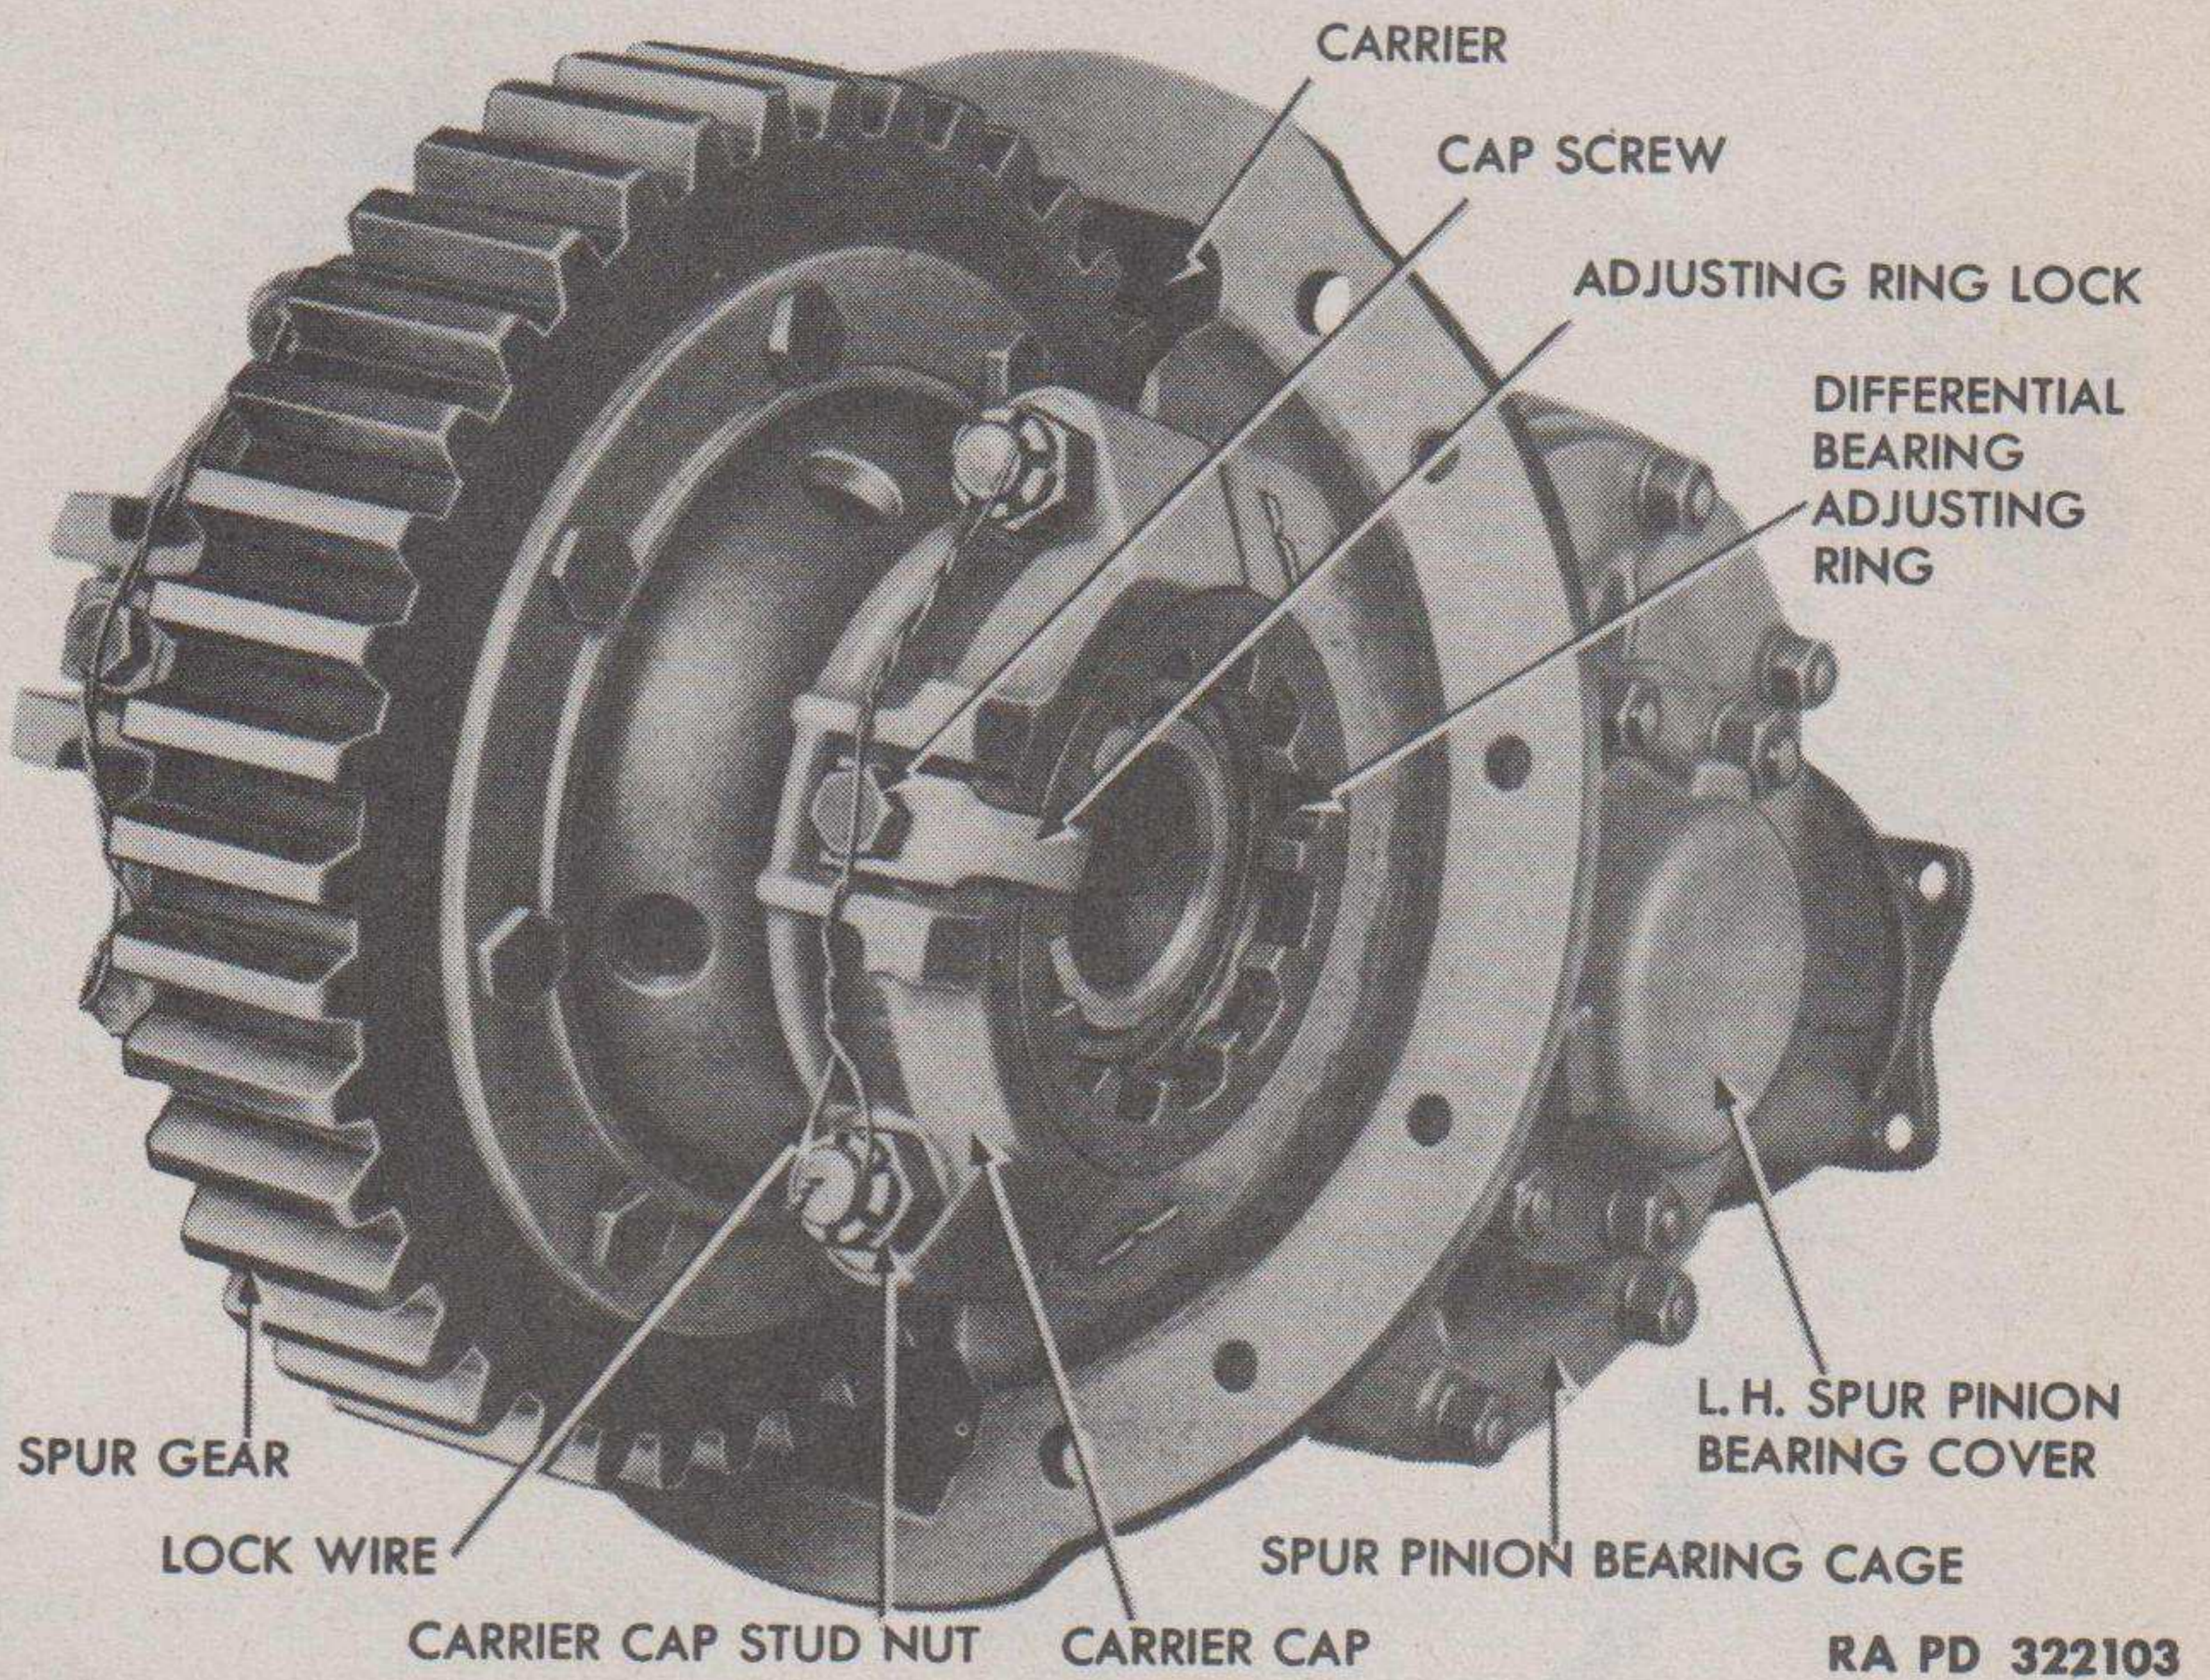

Figure 36 – Front Axle Differential Carrier Assembly
(1) **MARK CARRIER AND CARRIER CAPS** (fig. 36). Punch-mark carrier and carrier caps on both sides to assure correct fit when unit is assembled.
(2) **REMOVE DIFFERENTIAL ASSEMBLY** (fig. 36). Remove lock wires from carrier cap nuts and differential bearing adjusting ring lock screws. Remove lock screws and lift off adjusting ring locks. Remove carrier cap nuts. Tap off carrier caps. Tap adjusting rings out of threads in carrier. Lift out differential assembly.
(5) **REMOVE LEFT-HAND SPUR PINION BEARING COVER** (figs. 36 and 38). Remove nuts and lock washers attaching cover to carrier. Lift off cover, shims, and gasket.
(6) **REMOVE SPUR PINION BEARING CAGE** (figs. 36 and 38). Remove nuts and lock washers attaching cage to carrier. Tap cage to loosen it from carrier. Lift off cage and gasket. Pull left-hand spur pinion bearing cup out of cage.
(10) INSTALL DIFFERENTIAL ASSEMBLY (figs. 36 and 38). Place differential bearing cups on the bearing cones, and lift assembly into position in carrier. Differential spur gear must mesh with spur pinion. Place bearing adjusting rings against bearings with threads in rings engaged with threads in carrier. Install carrier caps, making certain that threads in caps are engaged with threads in adjusting rings. Install carrier cap nuts. Check differential bearing adjustment (par. 75 c), and install bearing adjusting lock and lock screw. Install lock wire.